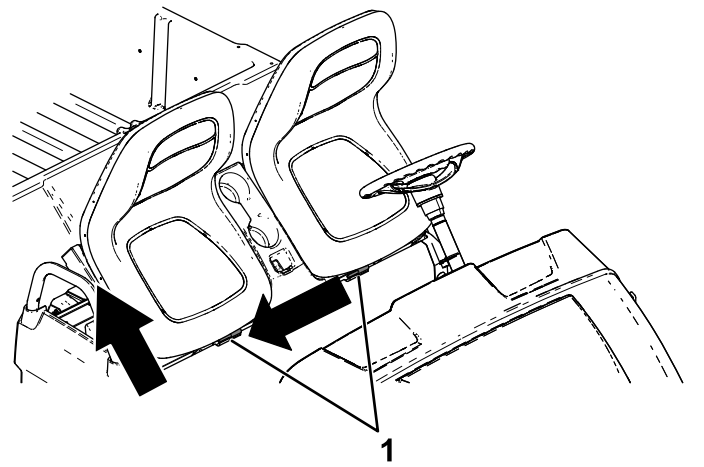

Figure 28
2. Slide the seat assembly to the side out of the pins, and lift the seat assembly upward (Figure 28).